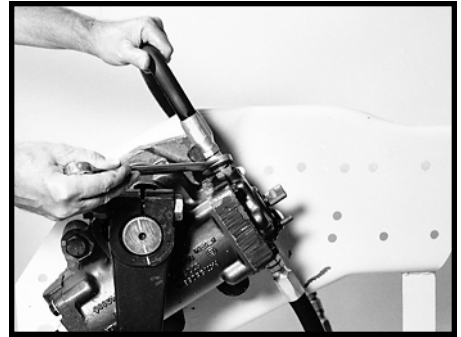

Figure 21
- 2.2 Remove and plug the return line. SEE FIGURE 21.